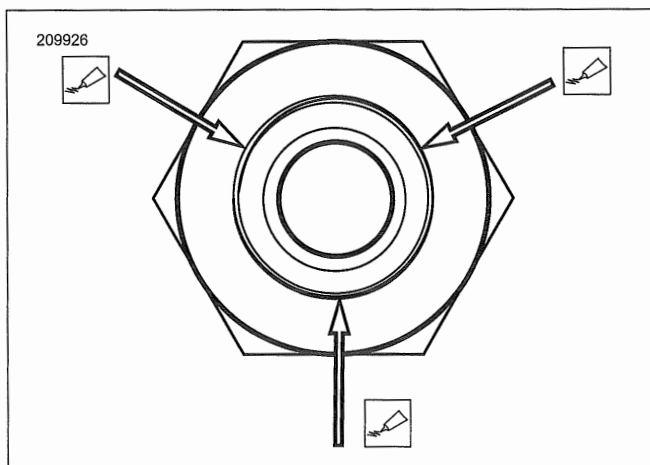

Figure 7-127. Three Dots of Threadlock
- b. See Figure 7-127. Apply three equally spaced dots of threadlocker on threads.